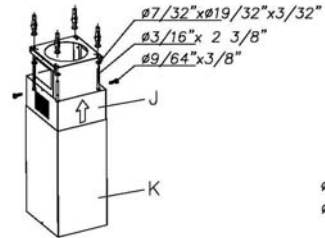

Fig. 4
- Attach the previously adjusted telescopic structure to the ceiling using 4 screws and washers (Fig. 4).
- Introduce pipe J with the grate on the upper part and attach the telescopic structure using 2 screws (Fig. 4).